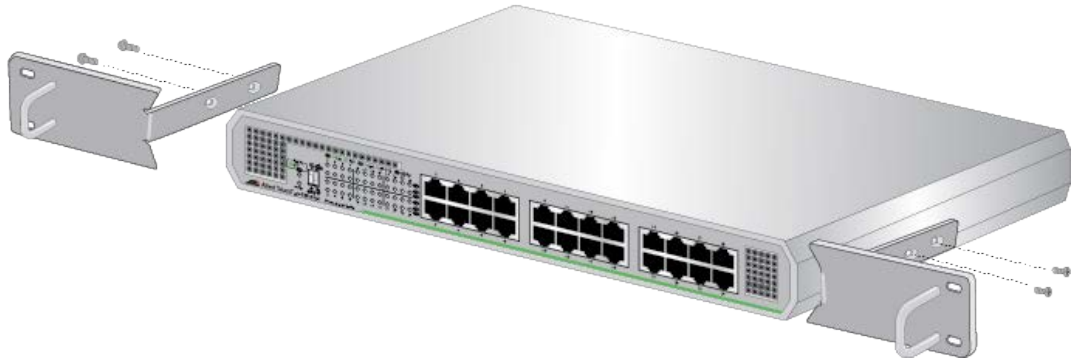

Figure 34. Attaching the Plates to the Switch
4. Attach the bracket units to the switch with M3x6mm screws using a Phillip-head screw driver as shown in Figure 34 on page 66.